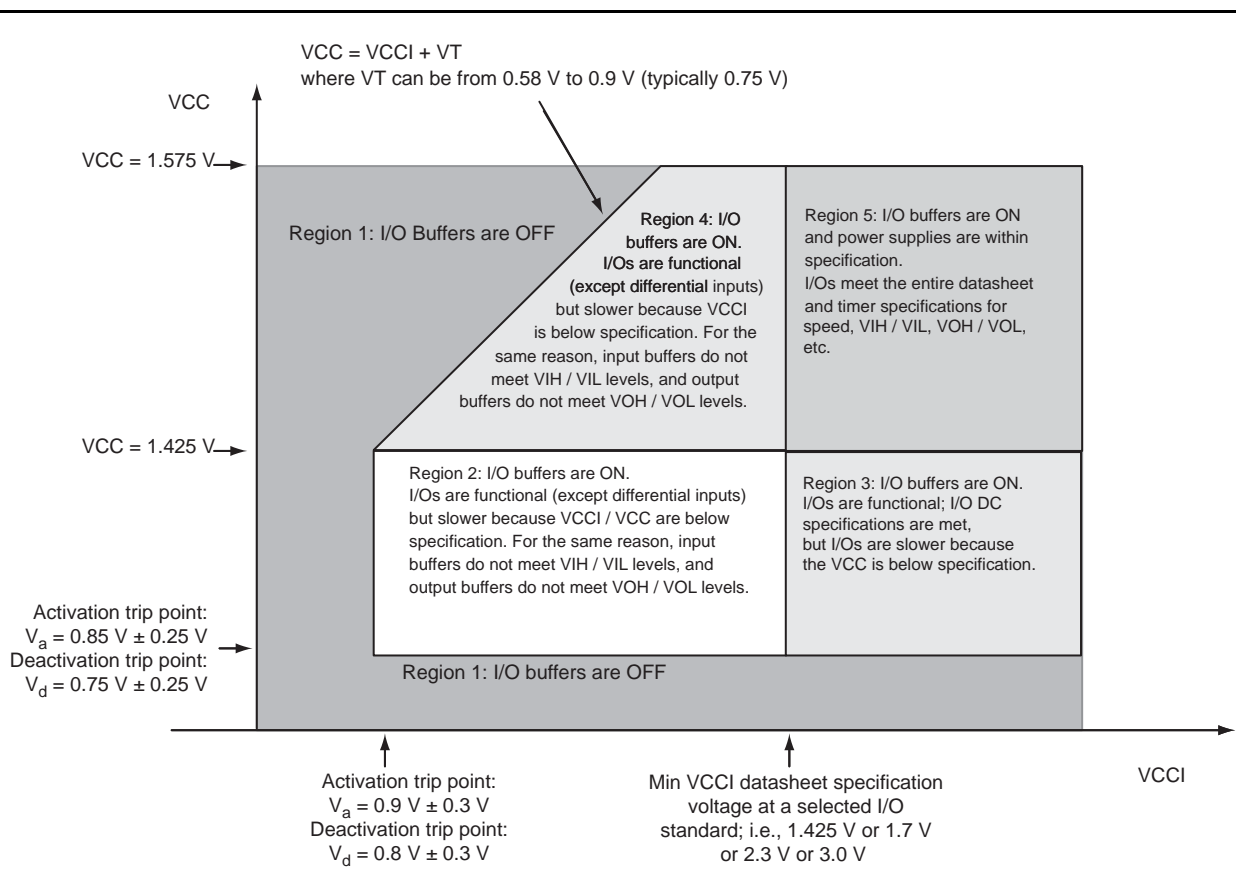
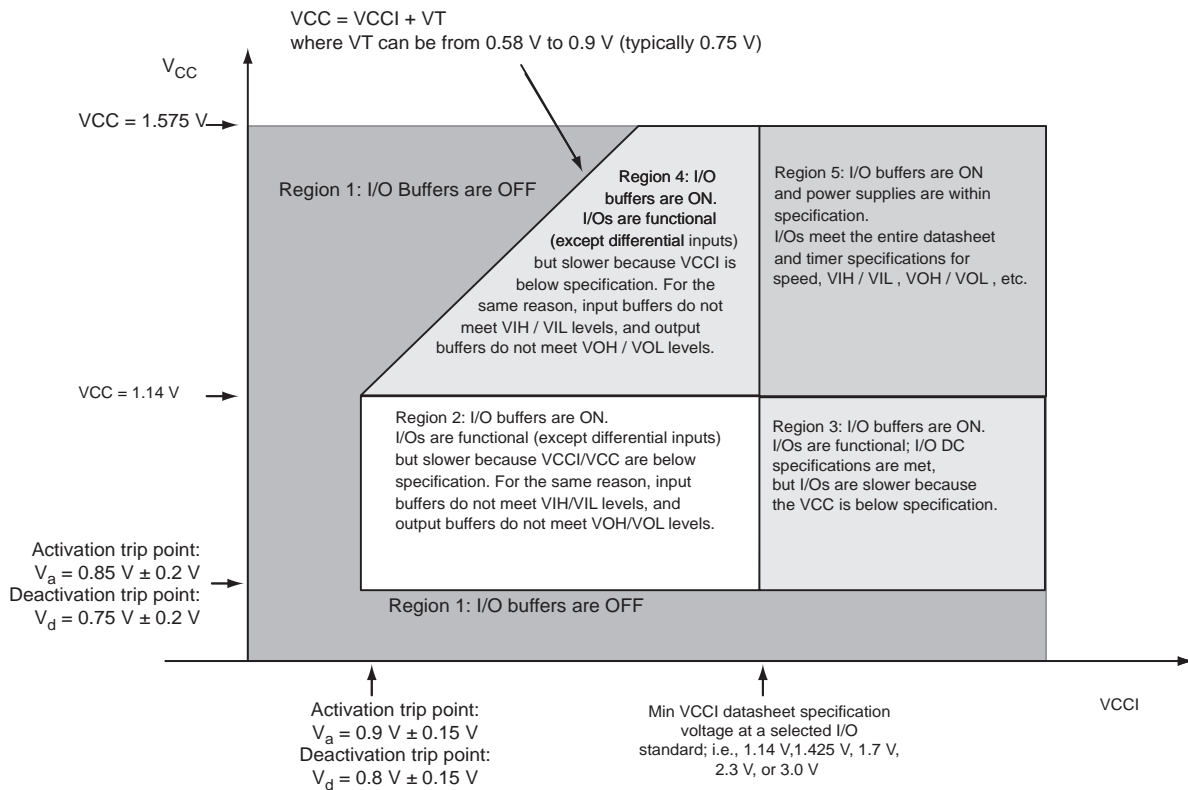

Figure 2-1 • V5 Devices – I/O State as a Function of VCCI and VCC Voltage Levels
Figure 2-2 • V2 Devices – I/O State as a Function of VCCI and VCC Voltage Levels
Sophisticated power-up management circuitry is designed into every IGLOO device. These circuits ensure easy transition from the powered-off state to the powered-up state of the device. The many different supplies can power up in any sequence with minimized current spikes or surges. In addition, the I/O will be in a known state through the power-up sequence. The basic principle is shown in Figure 2-1 on page 2-4 and Figure 2-2 on page 2-5.
1. VCC and VCCI are above the minimum specified trip points (Figure 2-1 on page 2-4 and Figure 2-2 on page 2-5).
Actel recommends using monotonic power supplies or voltage regulators to ensure proper power-up behavior. Power ramp-up should be monotonic at least until VCC and VCCPLX exceed brownout activation levels (see Figure 2-1 and Figure 2-2 on page 2-5 for more details).